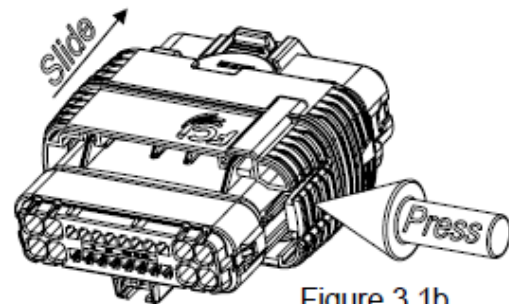

Figure 3.1b
- Squeeze the Slider lock release in the location shown & then pull the slider axially in the direction shown. (See figure 3.1b).